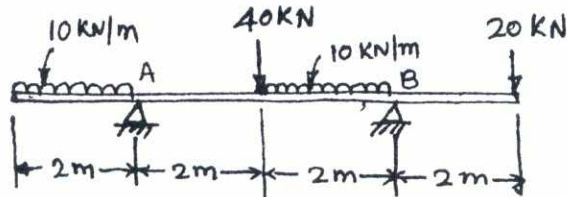

Fig.Q5(b)
b. Draw the shear force and bending moment diagrams for the beam shown in Fig.Q5(b).